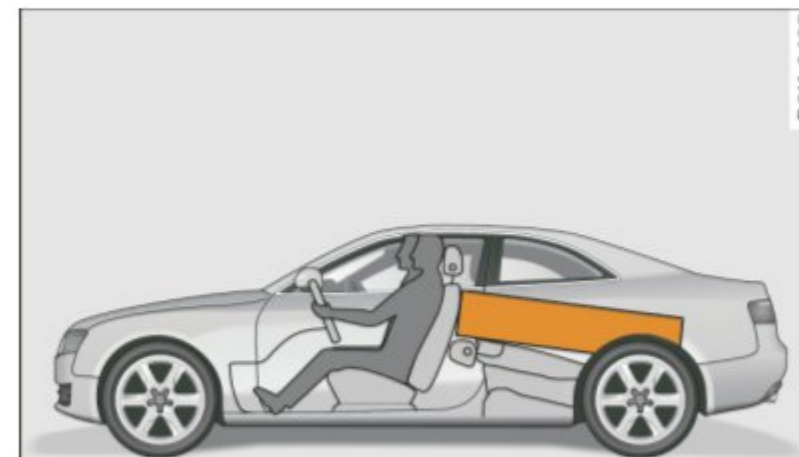

Fig. 161 Safe load positioning: place heavy objects as low and as far forward as possible. ►
- Always place and properly secure heavy items in the luggage compartment as low and as far forward as possible ⇒ fig. 161.